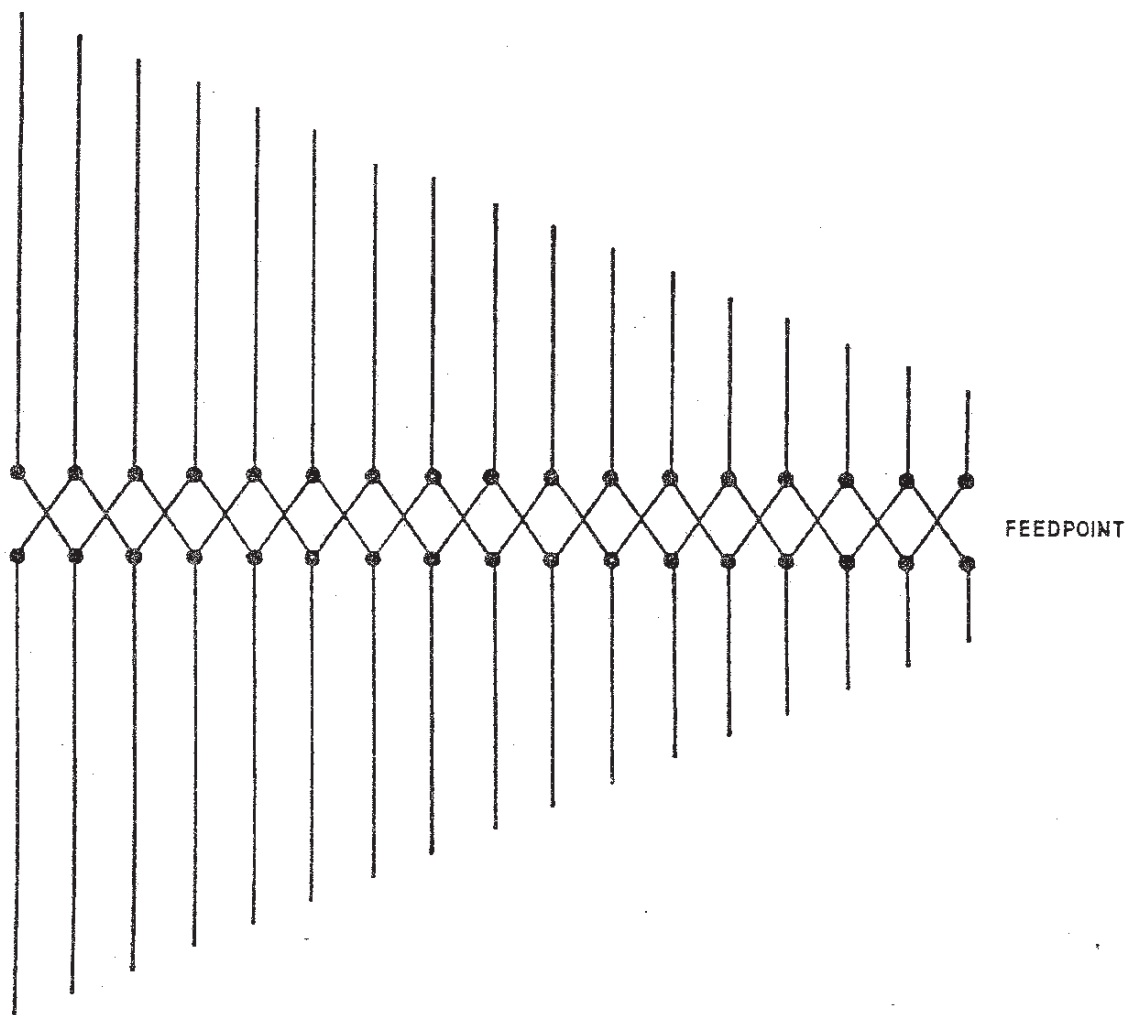

Figure 6-1
- a. This antenna system is planar array of dipoles assembled in accordance with logarithmically periodic antenna design and principles. Refer to Figure 6-1 for a schematic of the antenna. This design provides an antenna whose characteristics remain constant over a 4 to 30 MHz band. The parameters of the antenna are defined only by angles and ratios. The operating frequency of the antenna is limited only by its structural characteristics. The successive dipoles are connected alternately to opposite sides of a transmission line, called the feeder, to produce the required element phasing. Radio frequency energy, at a given frequency, travels along the feeder until it reaches a section of the structure where the electrical length of the elements and the phase relationships are such as to produce radiation. The resulting beam from this "active region" is directed toward the end of the shortest elements, so the beam always shoots through elements which are shorter than one-half wavelength at the operating frequency. These small, closely spaced elements are oppositely connected so that the field produced by currents in adjacent elements ahead of the active region tend to cancel.